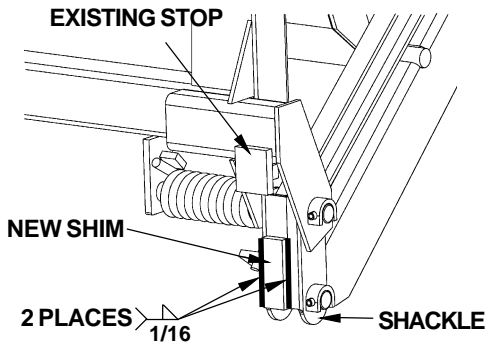

FIG. 2
4. If the platform is level at bed height (**FIG.1C**) and sags at ground level (**FIG.1D**), weld 1-1/2" x 3-1/2" shims in 1/16" increments to each lift arm Shackle (roadside and curbside) as shown in **FIG. 2**. Make sure bottom edge of shim is flush with bottom edge of shackle. Each shim raises up the outboard edge of the flipover as shown in **TABLE 1**.